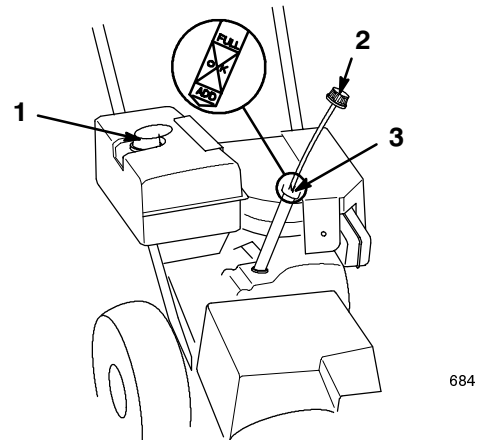

Figure 13
2. Clean the area around the dipstick (Fig. 13).
3. Remove the dipstick from the crankcase (Fig. 13).
1. Clean the area around the fuel tank cap (Fig. 13).